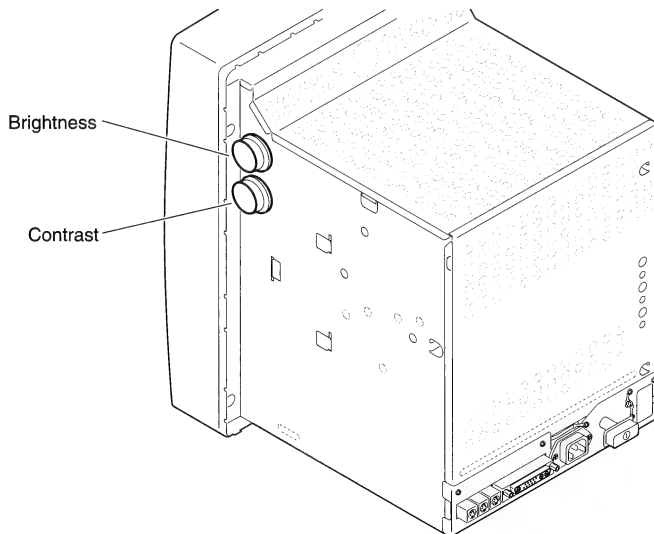

Figure 4 Brightness and Contrast Controls
2. FIGURE 4. Turn the brightness control to the detent position (midrange) and contrast control to maximum (full clockwise).